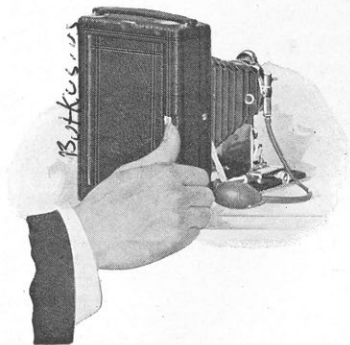

FIG. 2
9. To focus on ground glass push to right on nick-eled catch at side of back, which releases the ground glass panel. See Fig. 2. Then open the shutter.